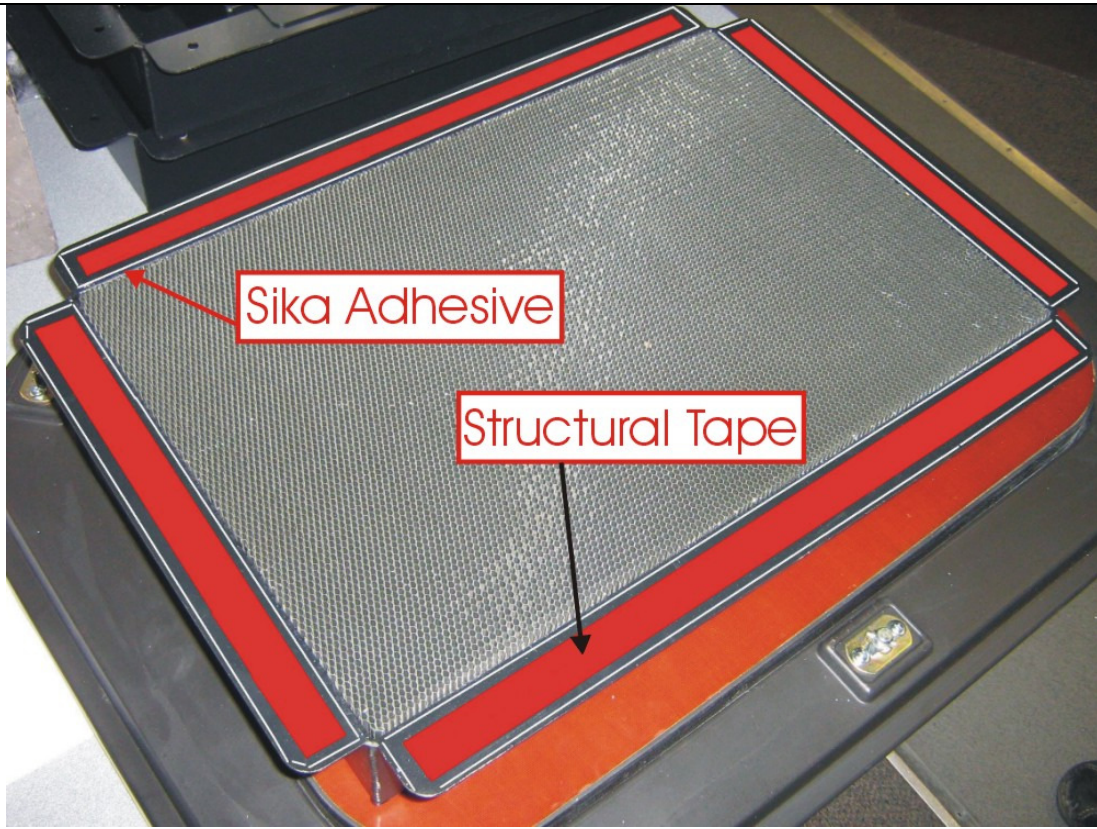

Figure 2: Sika Adhesive and structural tape.
6. Apply double sided structural tape (PN 089832) to the flanges of the aluminum enclosure. Ensure tape is centered on flanges. See Figure 2.
7. Apply a bead of Sika Adhesive (PN 056379) on the perimeter of the flanges on the aluminum enclosure. See Figure 2.